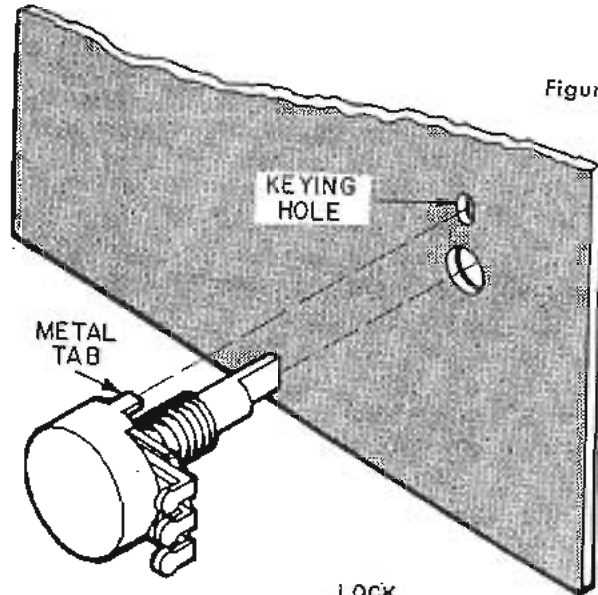

Figure 1-1
Step 1-A Rotate each control until the projecting metal tab is positioned in the key-hole as shown in Fig. 1-1. Tighten the hex nut on the control with your combination pliers or an open-end wrench.